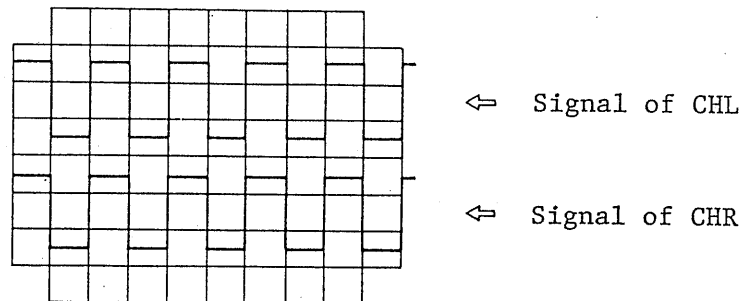

Fig. 6
adjust the VARIABLE knob (24) and adjusting the vertical POSITION knobs (8) and (13) that dual traces as shown in Fig. 6 are displayed on the CRT screen.